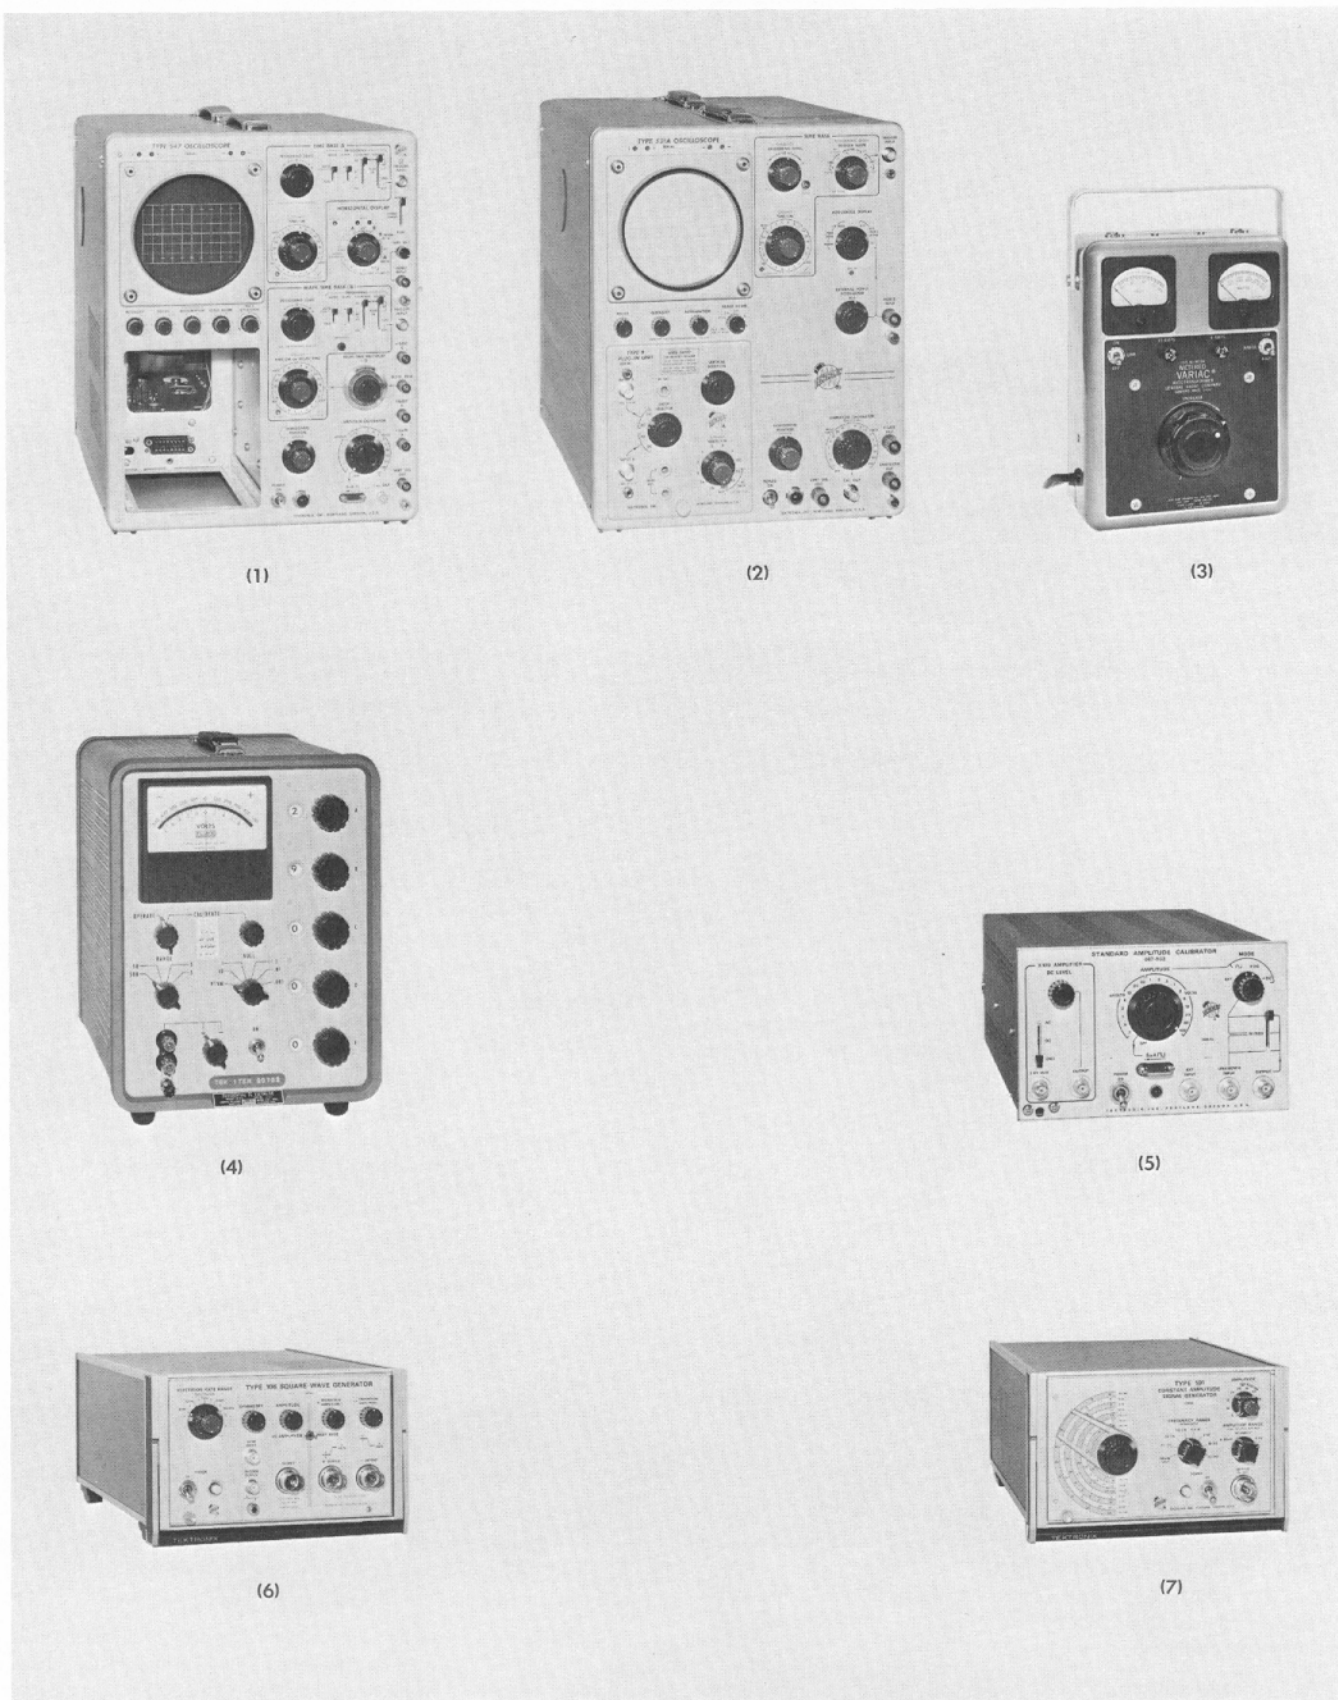

Fig. 7-1. Equipment required for the calibration of the Type 1A4.
The following test equipment (items 1 through 7; see Fig. 7-1), or its equivalent, is required for complete calibration of the Type 1A4. Specifications given are the minimum necessary for accurate calibration of this unit. All test equipment is assumed to be correctly calibrated and operating within the given specifications. If equipment is substituted, it must meet or exceed the specifications of the recommended equipment.
Test Equipment (Fig. 7-1)